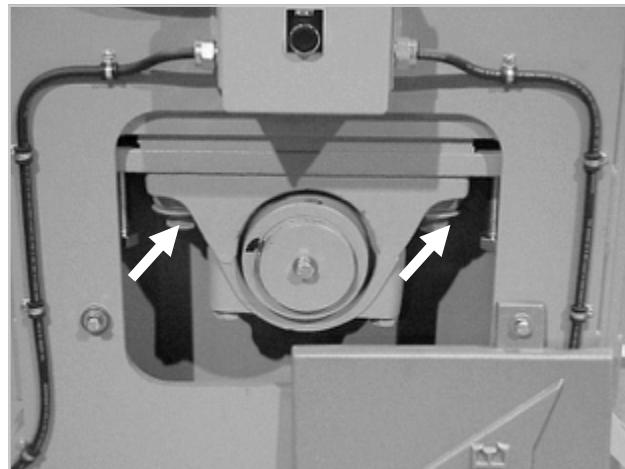

Figure 69
- Step 2. Remove the bearing guard and loosen the bolts on the bearing (Figure 69).
- Step 5. Loosen the Jack Bolts and tighten the bolts on the bearing (Figure 69).